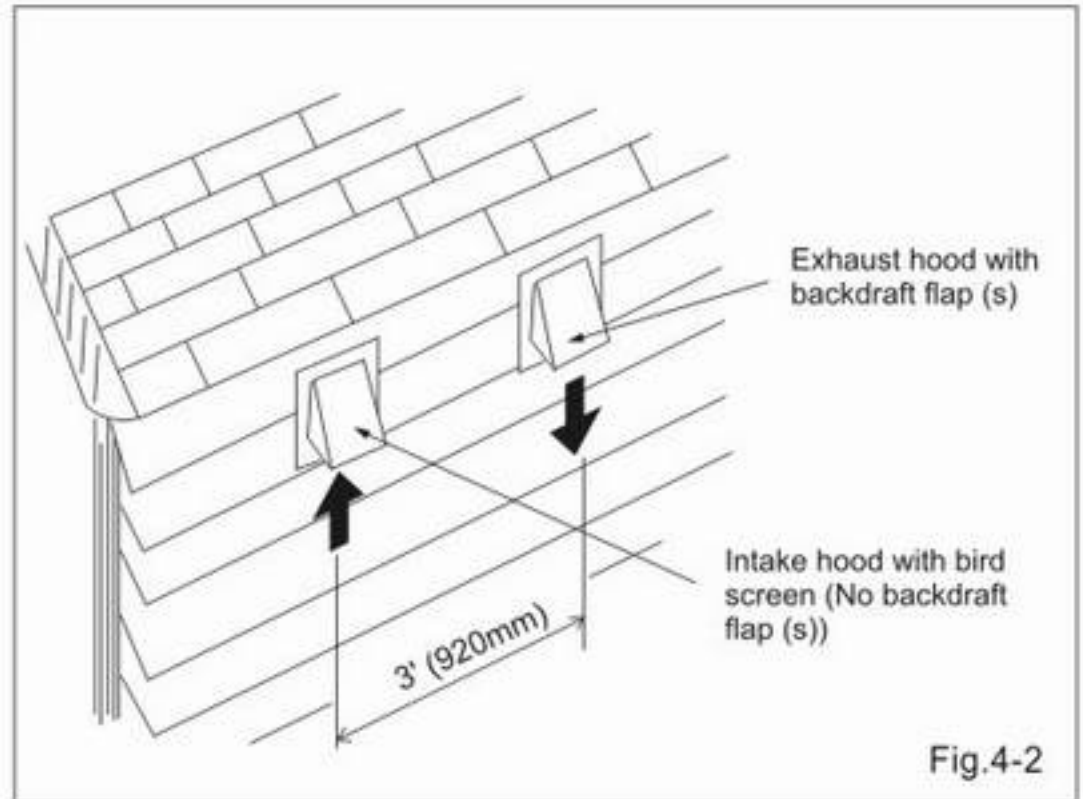

Fig.4-2
9. Locate the intake hood and the exhaust hood at least 3' (920mm) away from each other. (Fig.4-2)